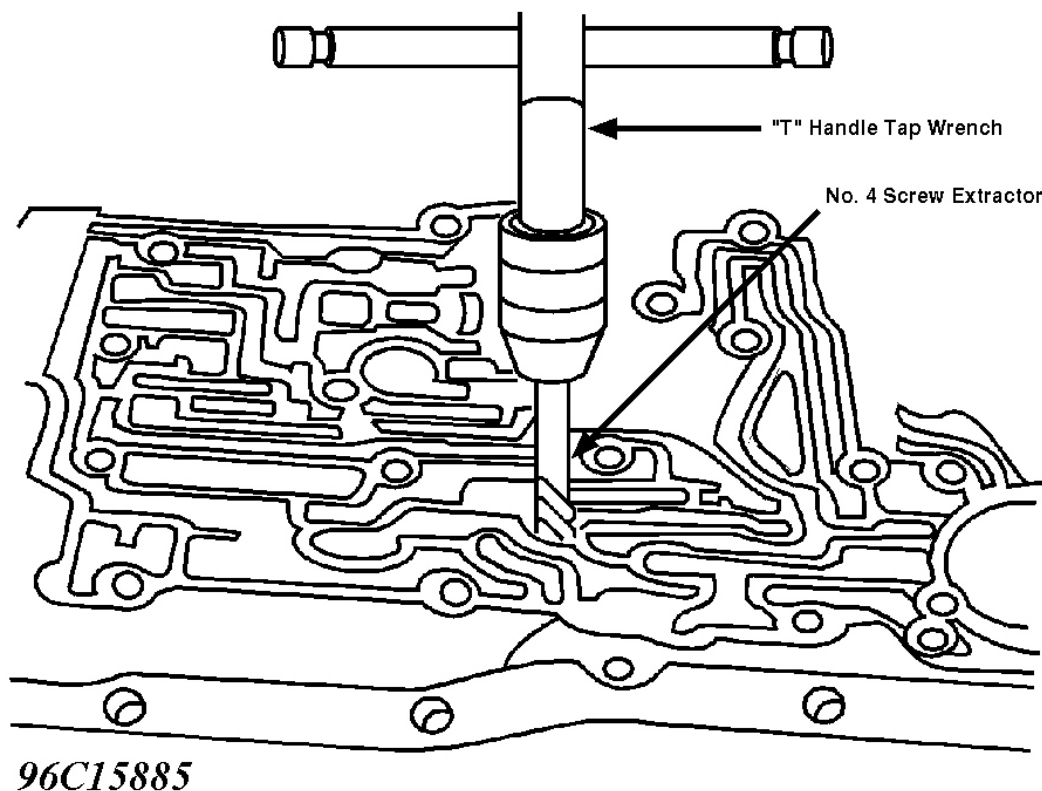

Fig. 8: Removing 3rd Accumulator Check Valve Assembly
2. Using a No. 4 screw extractor, remove check valve assembly from case by turning and pulling straight out. See **Fig. 8**.